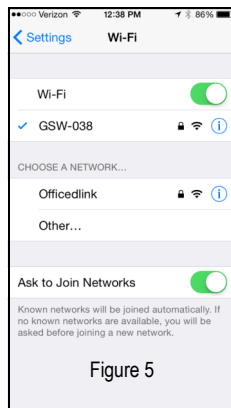

Figure 5
6. Select “GSW_” (the numbers appearing after GSW may vary), and connect. (iOS = Figure 5; Android = Figure 6.)